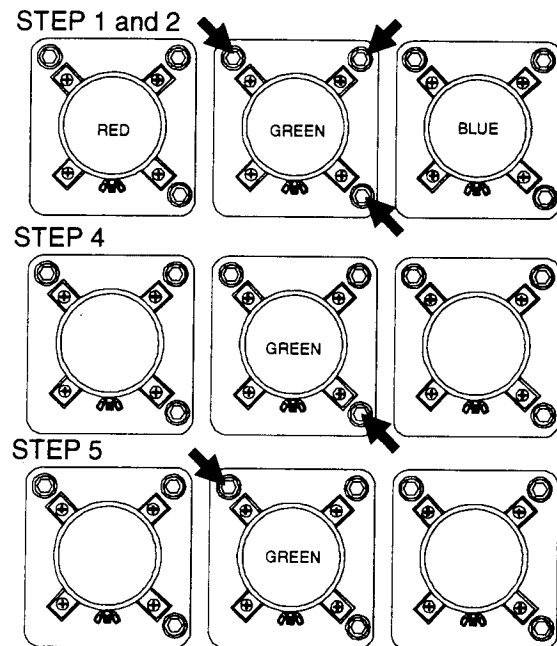

FIGURE 5-2.
- **STEP 1.** Tighten all three lens adjustments, then turn counterclockwise $\frac{3}{4}$ of a turn. Refer to Figure 5-2.
- **STEP 4. GREEN ONLY !** Adjust the lower right lens adjustment until the upper right corner of the image is focused. See Figure 5-2. Repeat lens focus procedure if necessary at this time.
- **STEP 5. GREEN ONLY !** Adjust the upper left lens adjustment for side to side focus. See Figure 5-2